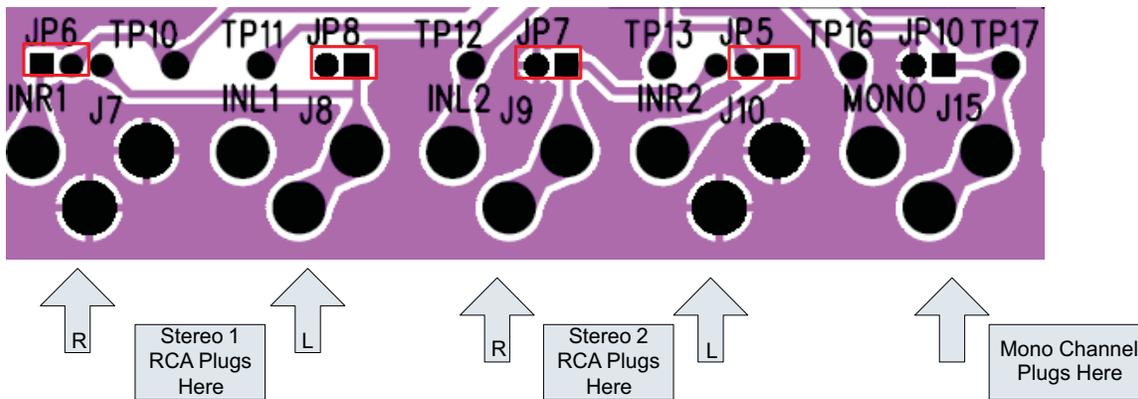

Figure 2. Non-Differential Mode Input Configuration
JP5, JP6, JP7, JP8	As shown in Figure 2
- b. **For all other modes**, install shunts and connect RCA plugs as shown in Figure 2.